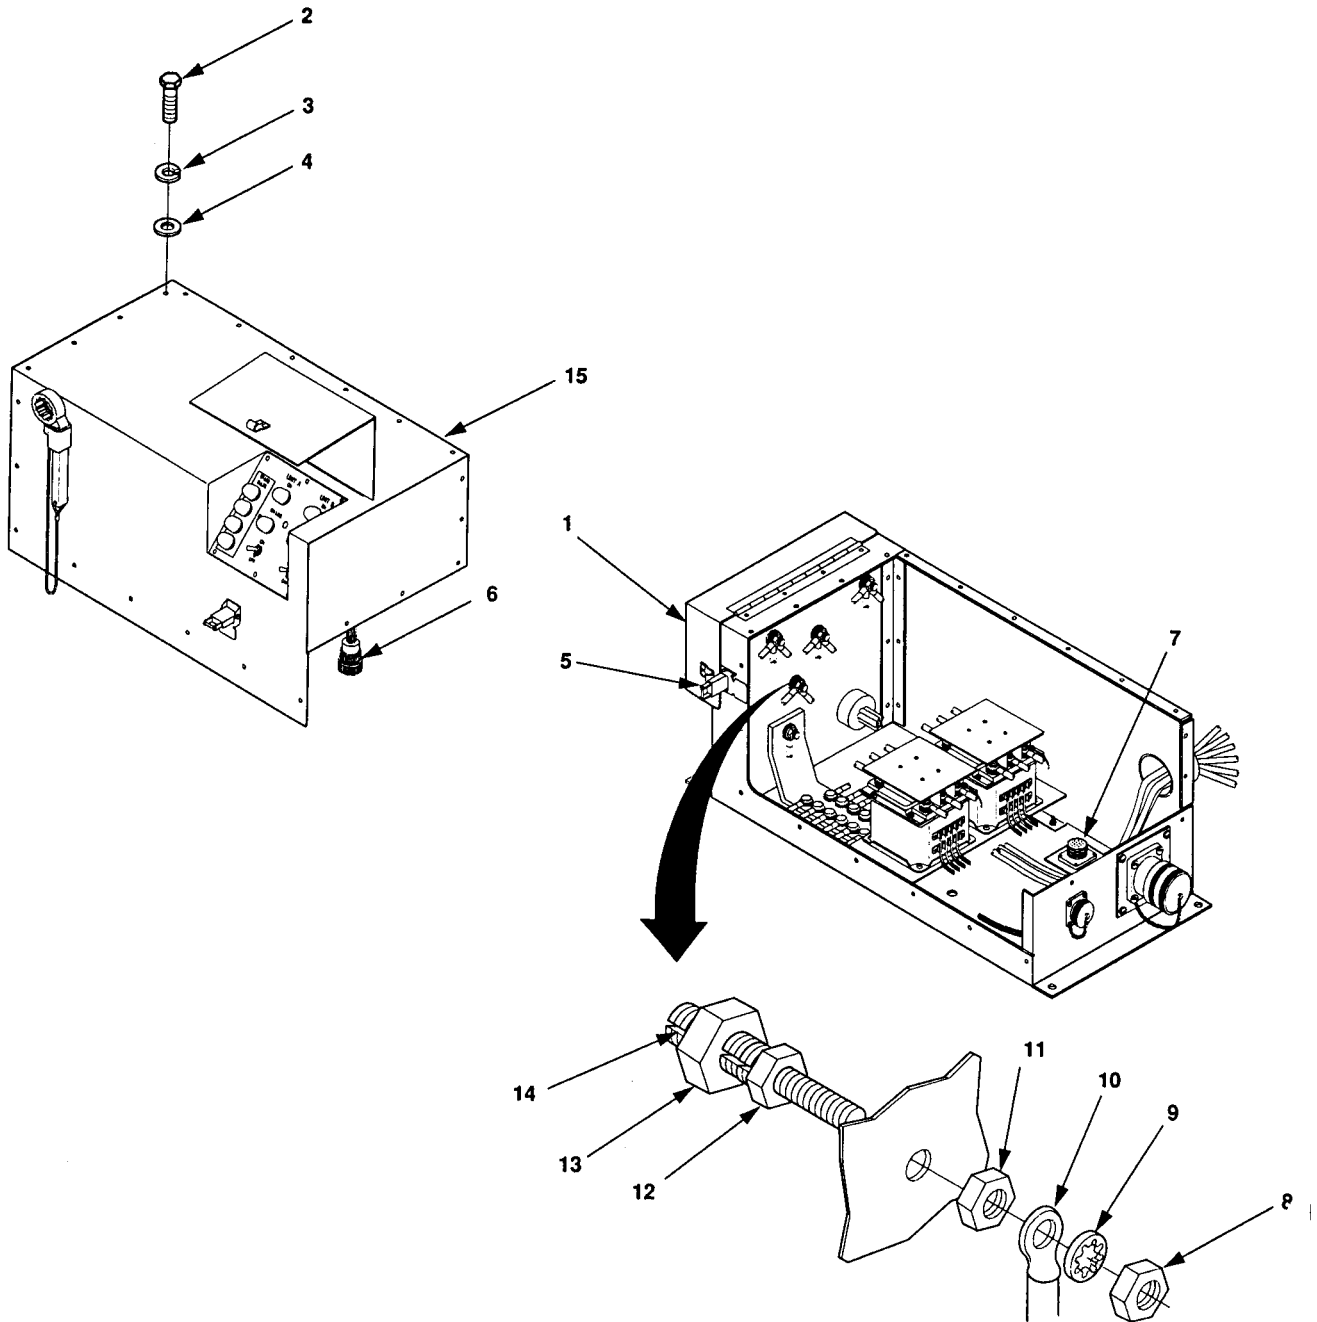

Figure 4-15. Switch Box Load Terminal Maintenance.
5. Close load terminal door (1, figure 4-15) and secure with clamping catch (5).